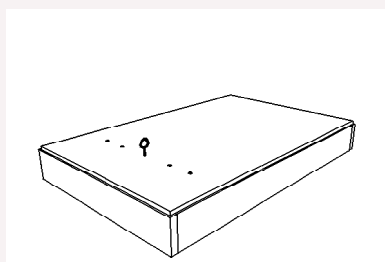

fig 8
5. Fit the screw eye which is taped to the operating rod to the lid 100mm in from the opening end, midway across the width (figure 8).